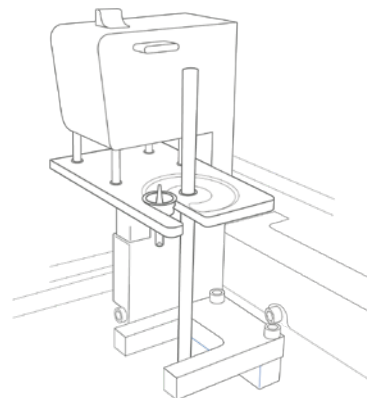

Fig. 34. Reagents Cartridge Piercer snapped in place on drip plate.
2. Load the Reagents Cartridge Piercer into the drip plate until it snaps into place (Figure 34).